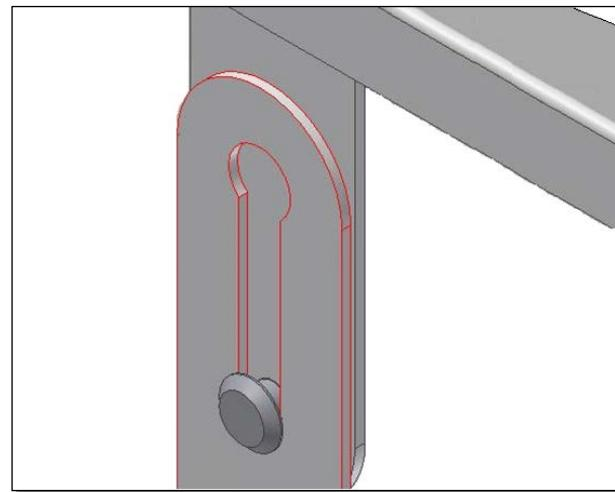

Figure 2, Screen Support Slot
5. ASSEMBLE the **Upper Frame** (7) onto the **Screen Support** (9) by inserting the pin on the **Upper Frame** into the top of the slot on the **Screen Support** and sliding it down. (See Figure 2.)